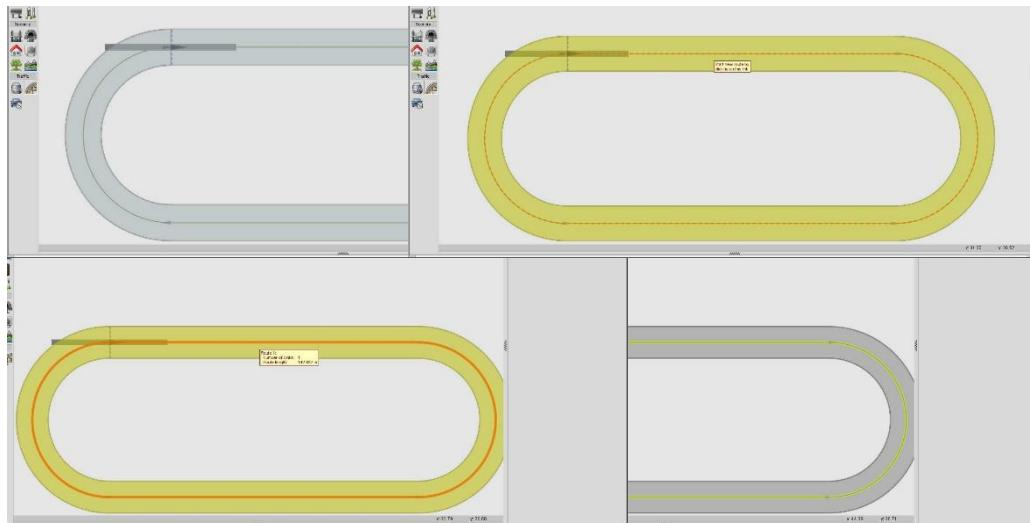

Figure 3.17: Route generation step by step:
- 1) **Figure 3.17** shows the steps of route generation and the corresponding overlay color.